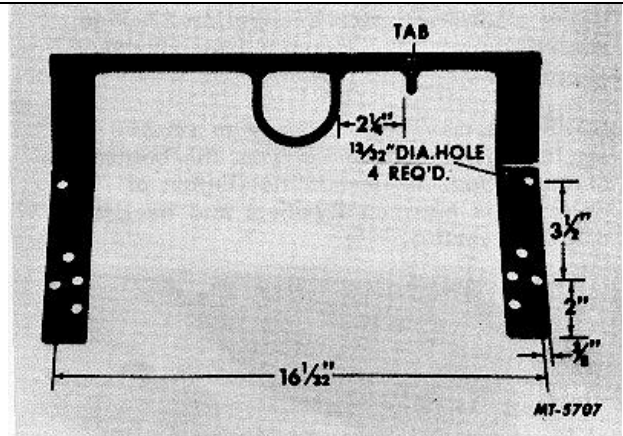

Fig. 47 Cylinder Head Lifting Sling SE-1896
- a. Drill four 13/32" diameter holes at locations shown in Figure 47.
- b. Form a tab on the sling made from 3/8" x 3/4" cold rolled stock and weld to sling per dimension shown in Figure 47. The purpose of the tab is to hold the lifting chain or hook at a point on the sling to balance the cylinder head.